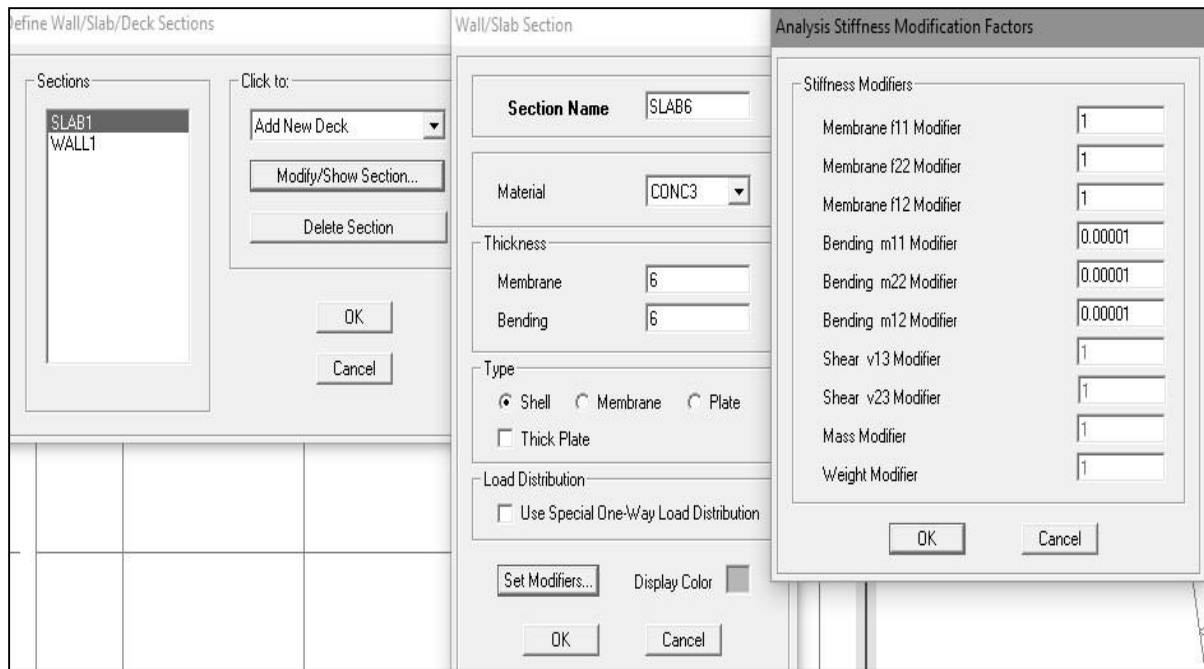

Fig 4.10
2.3 Wall/Slab/Deck Sections: Define→Wall/Slab/Deck sections→SLAB1→Modify/Show Section→ Section Name=SLAB6→Material=CONC3→Thickness: Membrane=6, Bending=6→Type: Shell→Set Modifiers→Bending m11 Modifier=Bending m11 Modifier=Bending m22 Modifier=Bending m12 Modifier= 0.00001→ OK →OK → OK. (Fig: 4.10).